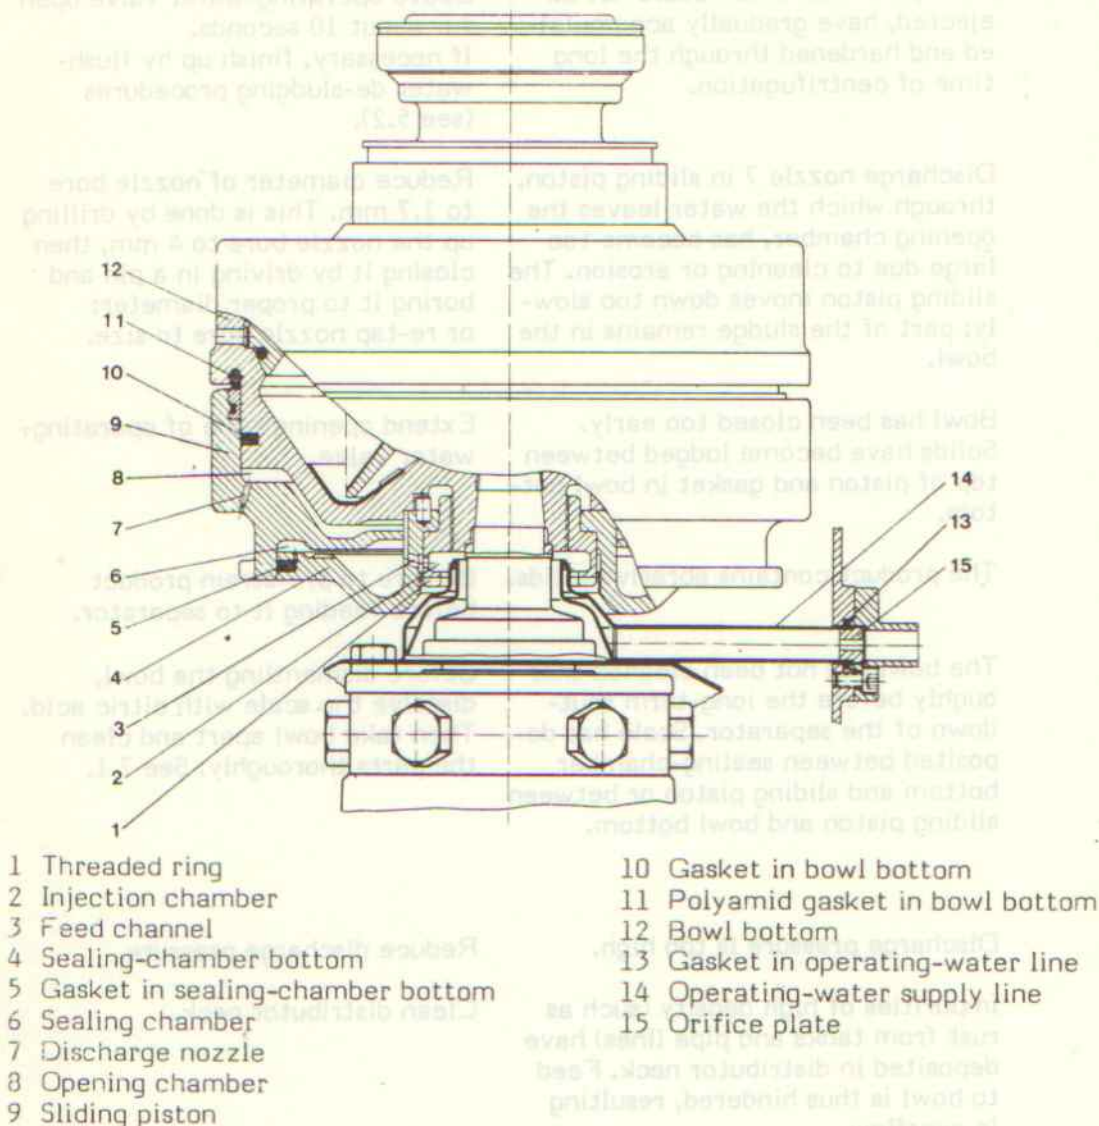

Fig. 10/1
10.2. Bowl performance (see fig. 10/1)